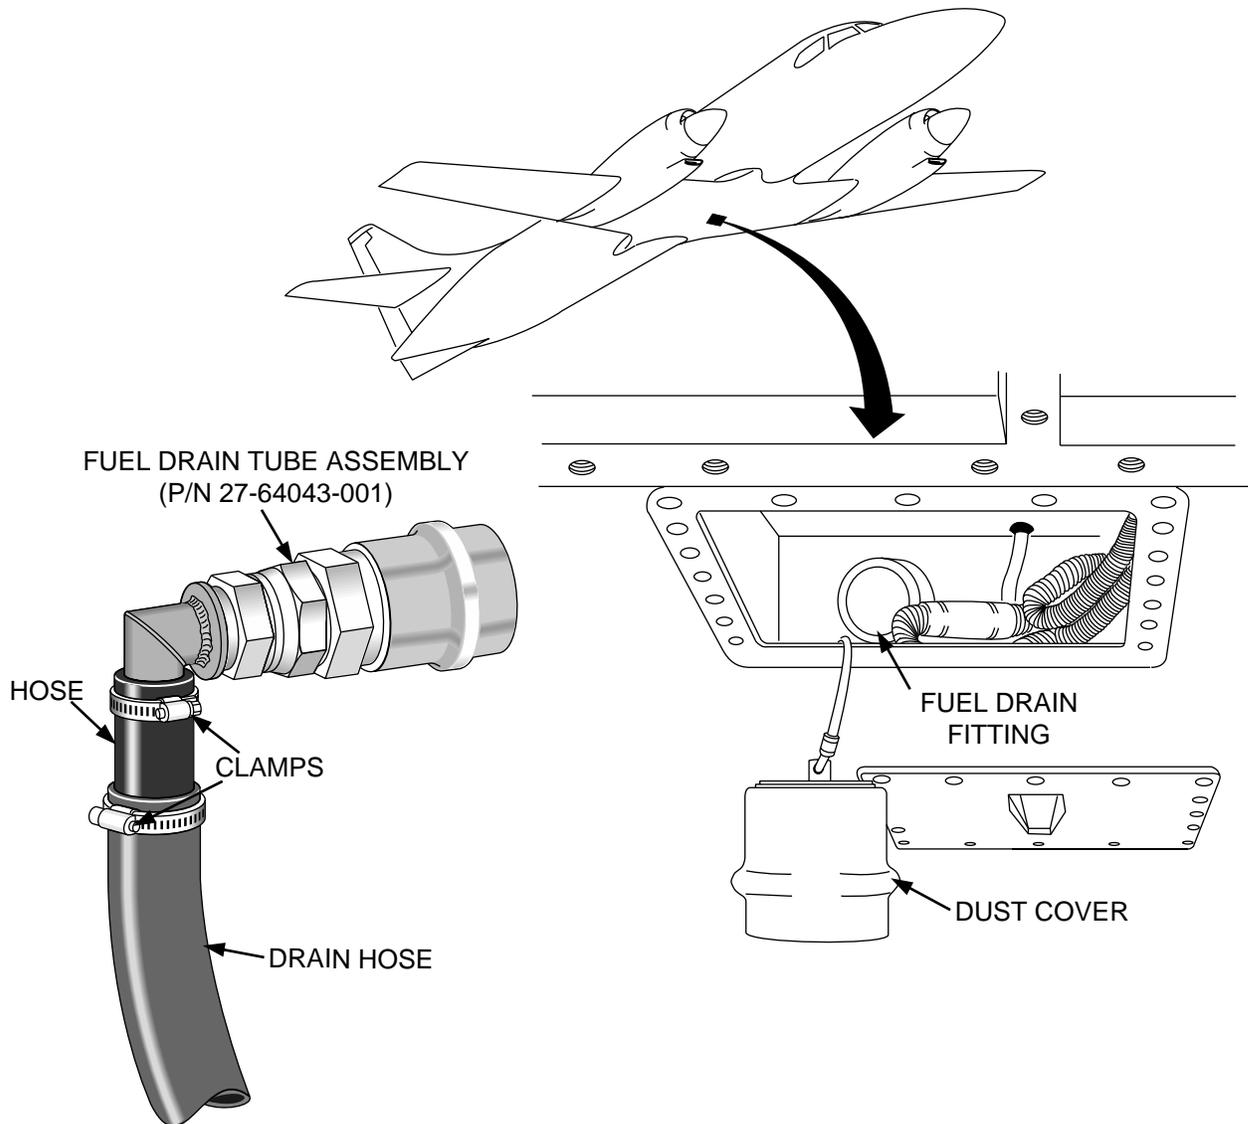

FIGURE 1-6
5. Remove the access panel located at the center section just forward of the aft spar. Locate the fuel drain fitting with the dust cover (red nipple) attached. (See Figure 1-6)